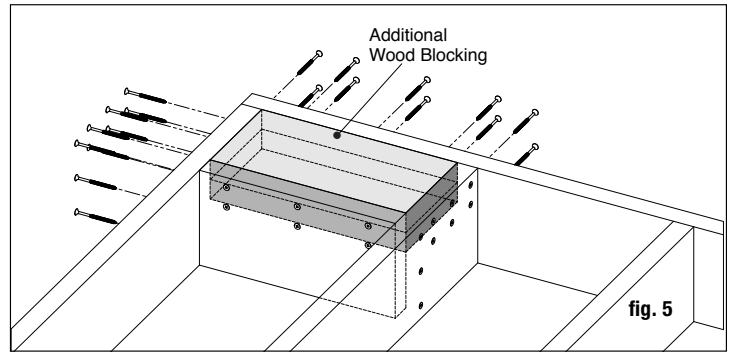

fig. 5
Step 2 Installing Posts: Install posts by attaching the aluminum base to the surface of the deck. Position the post so the fastener will go into the floor joist, and make sure the decking is firmly attached to the joist at the location of the posts. Proper structural blocking/ framing under the decking material is required when attaching the post to a wood frame deck because decking alone is not approved as structural framing (fig. 5).